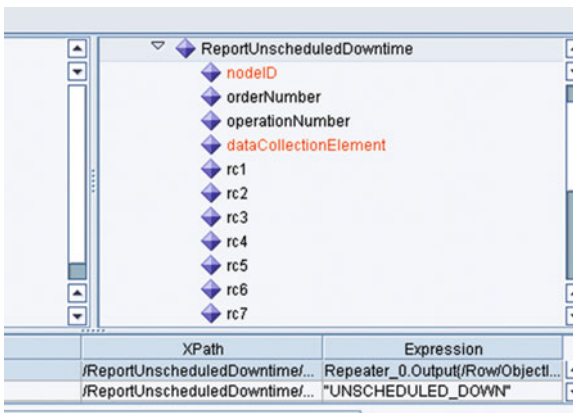

Figure 7-21. OEE service interface: *ReportUnscheduledDowntime*
5. Get the tag value from the PCo notification XML to check whether the event is for the machine's being up or down. If the event is for machine down, then execute the SAP OEE service interface ReportUnscheduledDowntime and pass the inputs as shown next. Refer to Figure 7-21.